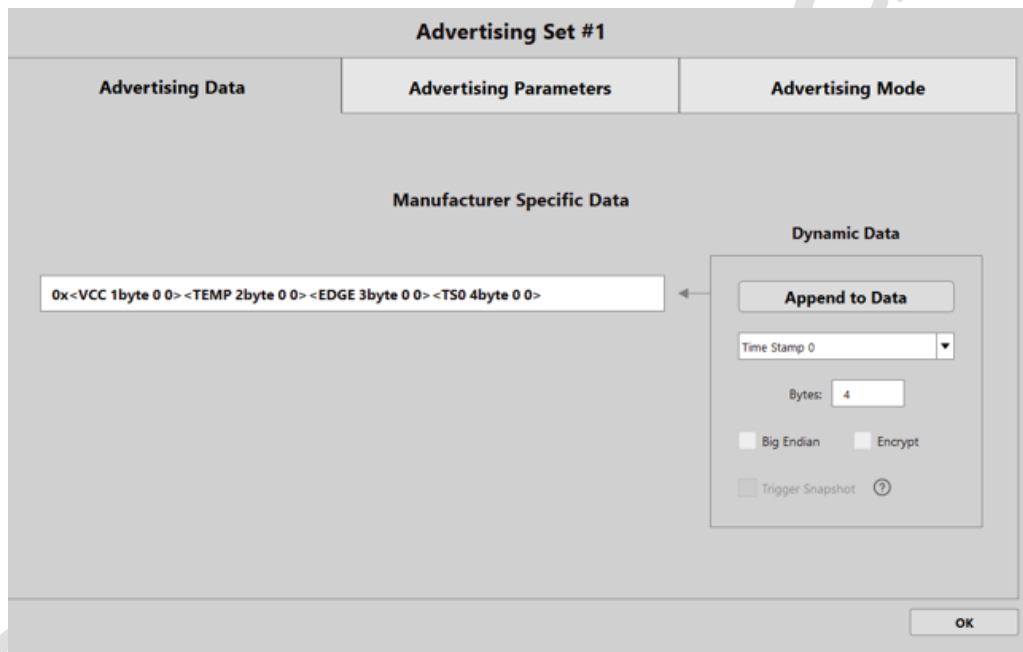

Figure 12 : Selecting dynamic data
- If it is extended data, we can select the data from the drop-down list from Dynamic Data box and then press button "Append to Data". The added extended data will be shown in the data entry inside "<>", as shown in Figure 12. For most of the extended data, the user can configure the number of bytes to be advertised. For example, the "Adv Count" (advertising count) internally has 4 bytes. A user can configure the device to advertise only 2 LSB bytes only by changing the number of bytes to 2. Depending on the data source selected, the endianness, encryption option and Trigger Snapshot option can be selected collectively or respectively.